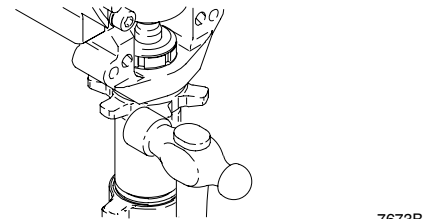

Fig. 13 7673B
6. Fig. 13. Loosen jam nut by hitting firmly with a 20 oz (maximum) hammer. Unscrew pump.